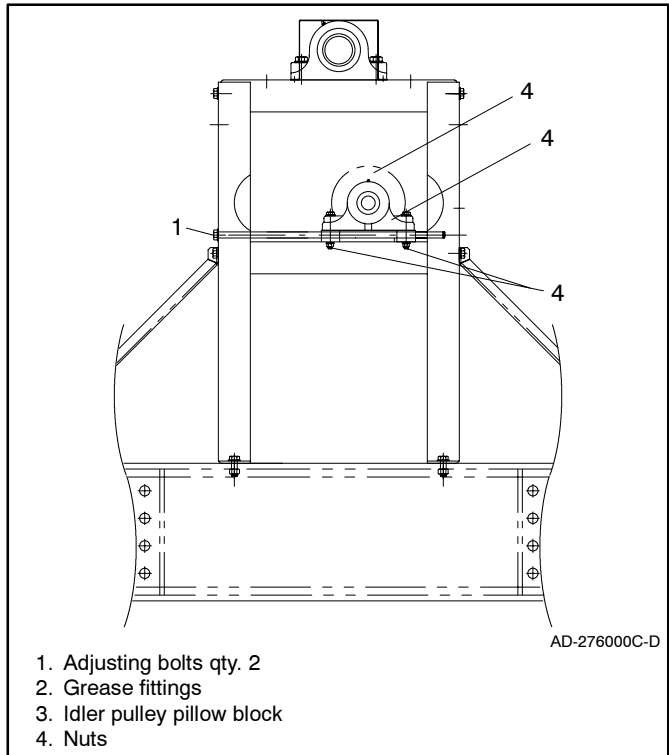

Figure 1-1 Idler Pulley Pillow Block Removal
3. Loosen the idler pulley pillow block adjusting bolt until the pillow block is freed. See Figure 1-1.
11. Adjust the fan tension using the idler pulley pillow block adjusting bolts located on the side of the fan-bearing support. See Figure 1-1.
12. With a belt tensiometer, set the belt tension to 2669 N (600 lbf.) on 60 Hz models and 2224 N (500 lbf.) on 50 Hz models by turning the two idler pulley adjusting bolts. See Figure 1-1.